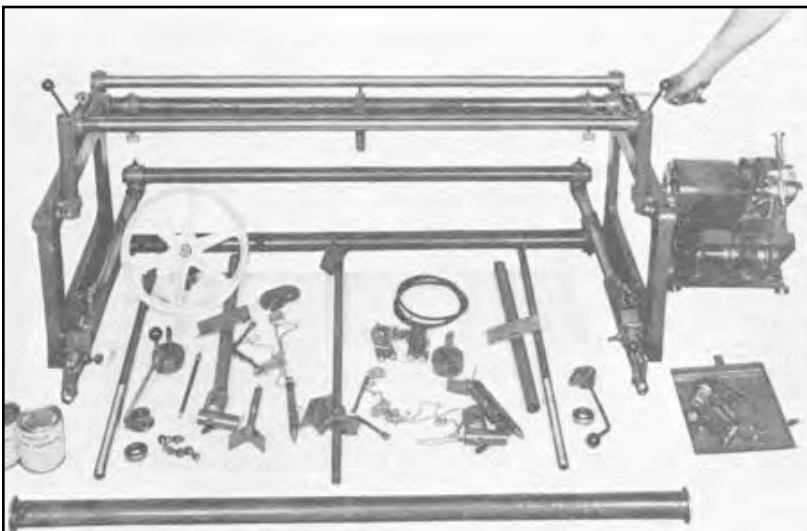
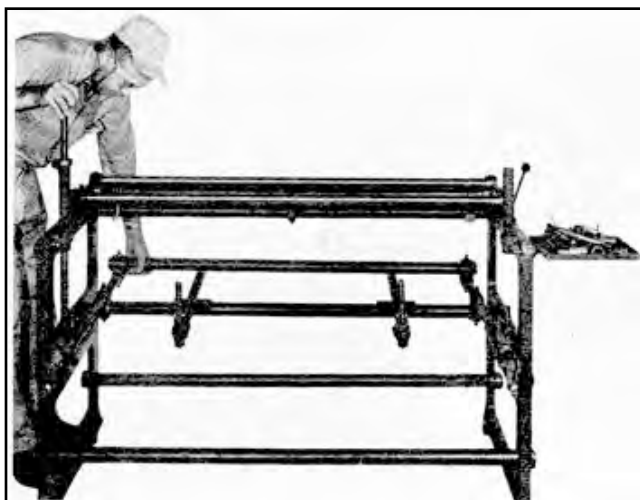
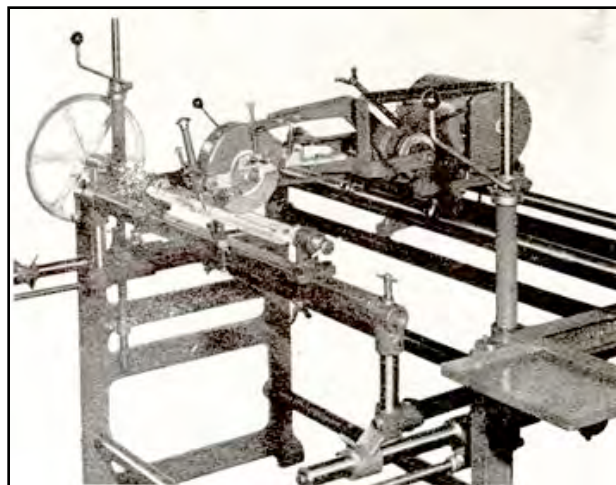
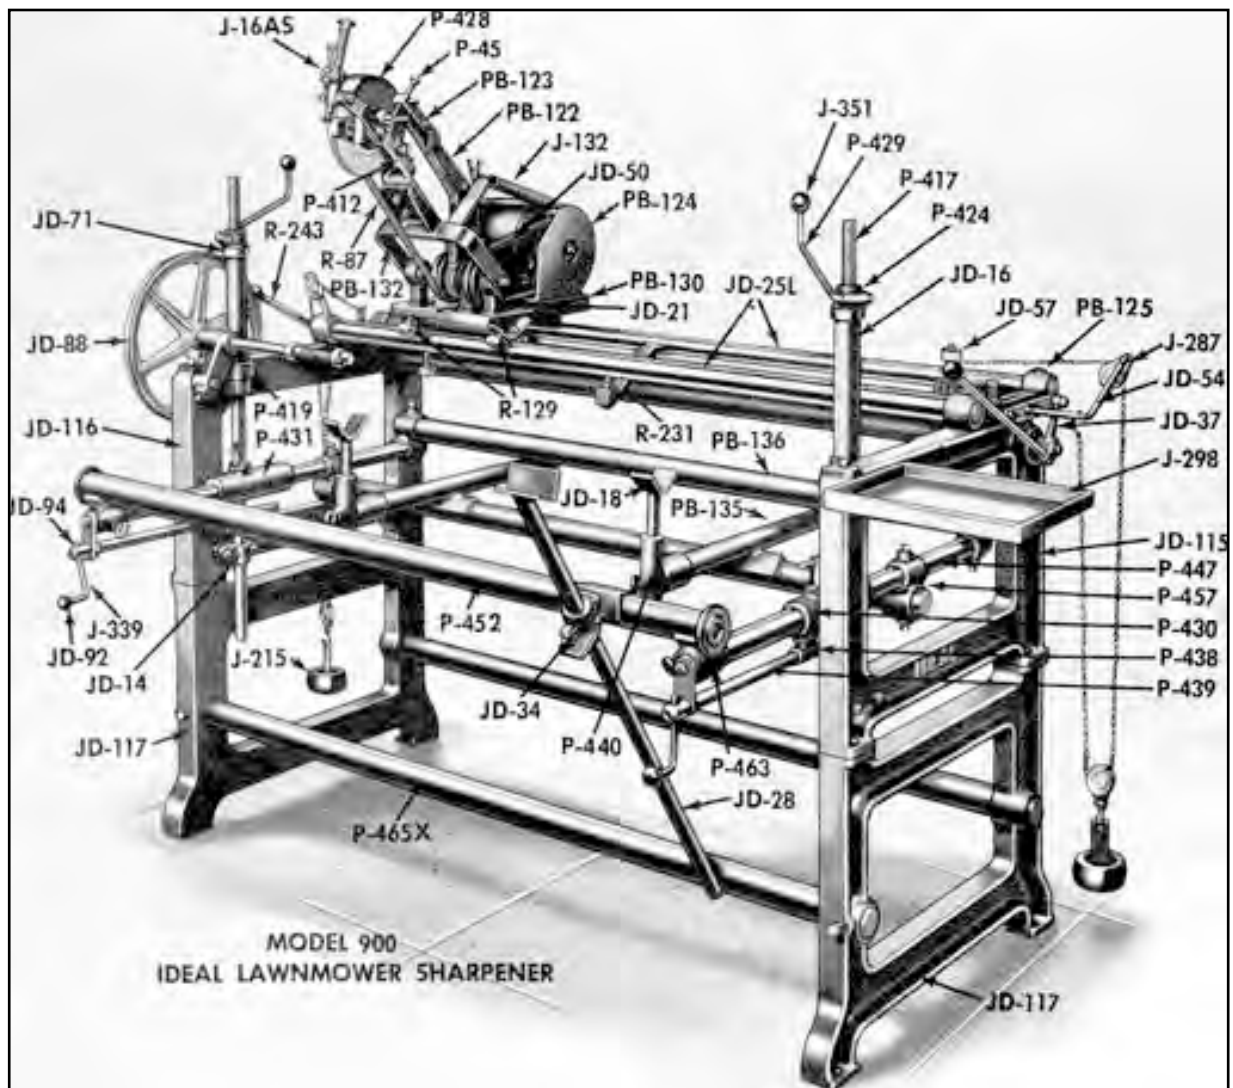

Fig. 2
Fig. 4
Fig. 5
Fig. 6
2. Check all parts received for shipping damage. Unpack the two cartons and place parts on floor as shown in Figure 2. Refer also to Figure 6 for a complete checking the parts and the final assembly of the machine. Remove the capscrews which hold the
grinding wheel carriage tracks in shipment as illustrated in Figure 2 (One in each end).
4. Remove and discard the two short pipes used to hold the adjusting mower support in position during shipment.. (See Figure 2). These must be removed before the vertical adjusting screws can be inserted as in Figure 4. Place the upper structure on the assembled sub-base as necessary to insert the bolts, then place the machine in its permanent place of operation. The machine must be level for proper operation and it should be leveled before the sub-base pipes are tightened. Insert the P-417 vertical adjusting screw through the JD-71 bearing, then through the JD-16 pipe and into the P-431 knuckle casting of the mower support frame. The frame will be at its bottom position and the P-424 crank collar should be within V2" of the top of the P-417 screw. Push the screw down until the crank collar and bearing rest on the JD-16 pipe, then tighten the set screw in the mower support frame knuckle. This will allow full adjusting range. Repeat this procedure on the other end, refer to Figure 4. Insert the J-298 tool tray in the right end frame.
When unpacking the two cartons, arrange parts as shown at left in the approximate locations where they will be used. Remove all wires and tape and remove the two capscrews used in each side frame to hold the carriage tracks in shipment. (See hand in illustration removing the right side capscrew.) Check parts against Figure 2 and Figure 6. Report any missing parts or shipping damage immediately.
5. With reference to Figures 4, 5, and 6, complete assembly by placing the mower support pipes in position as in Figure 4. Turn the J-339 cranks out for use as in Figure 6. The reconditioner attachment inserts into the left end frame. The JD-54 supports for the gravity feed fasten to the steel track linkage at either end with the chain and weights hooked up as shown in Figure 6. The grinding wheel carriage is complete and may be placed on the tracks as in Figure 6. Level the machine in both directions using the leveling bolts supplied for the sub-base legs, plug in the motor to a properly rated outlet and the Model 900 is ready for operation. Figure 5 shows how the bed knife grinding bar is installed for use in the mower support castings.
15. Elevating Crank. The adjustable frame on which the lawnmower rests is moved up or down on either side (using the opposite side as a pivot) by turning either of the two elevating cranks. (No. P429, fig. 6)